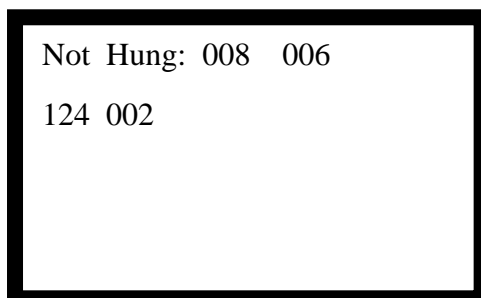

Fig. 3-7
- Either in call-out, call-in states or talk state, the telephone control panel will end all as long as the telephone receiver is put back. It will indicate the address codes for not hang up devices as shown in Fig.3-7 if there exist such ones.